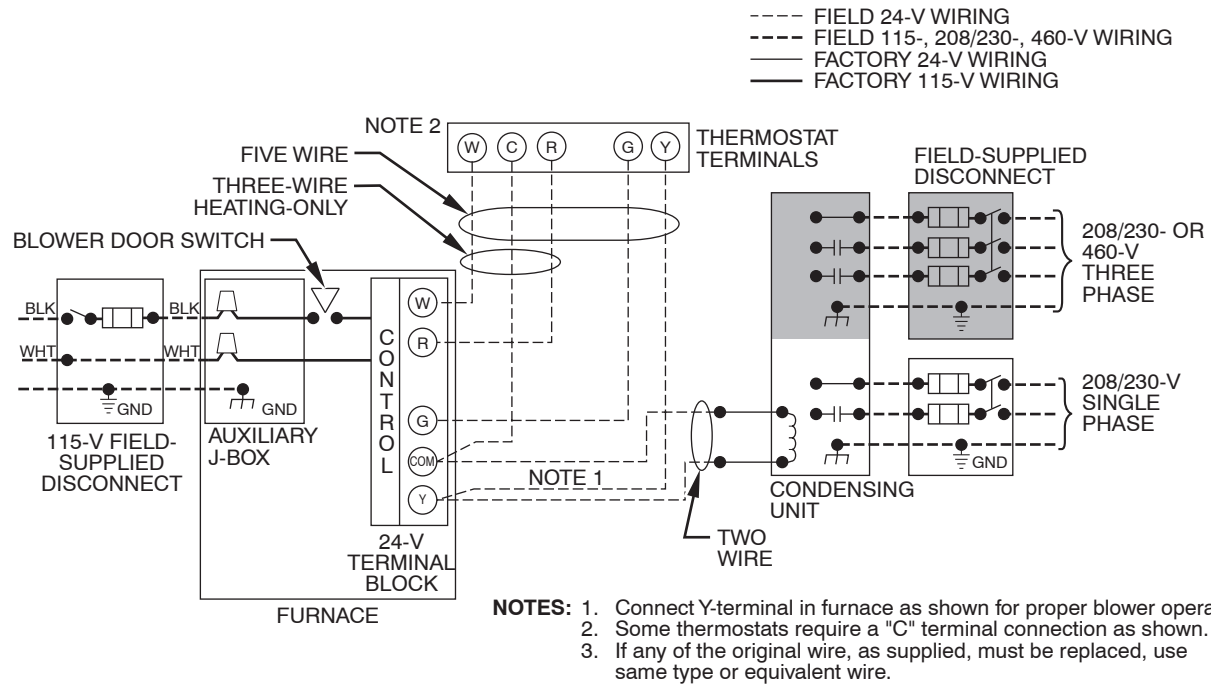
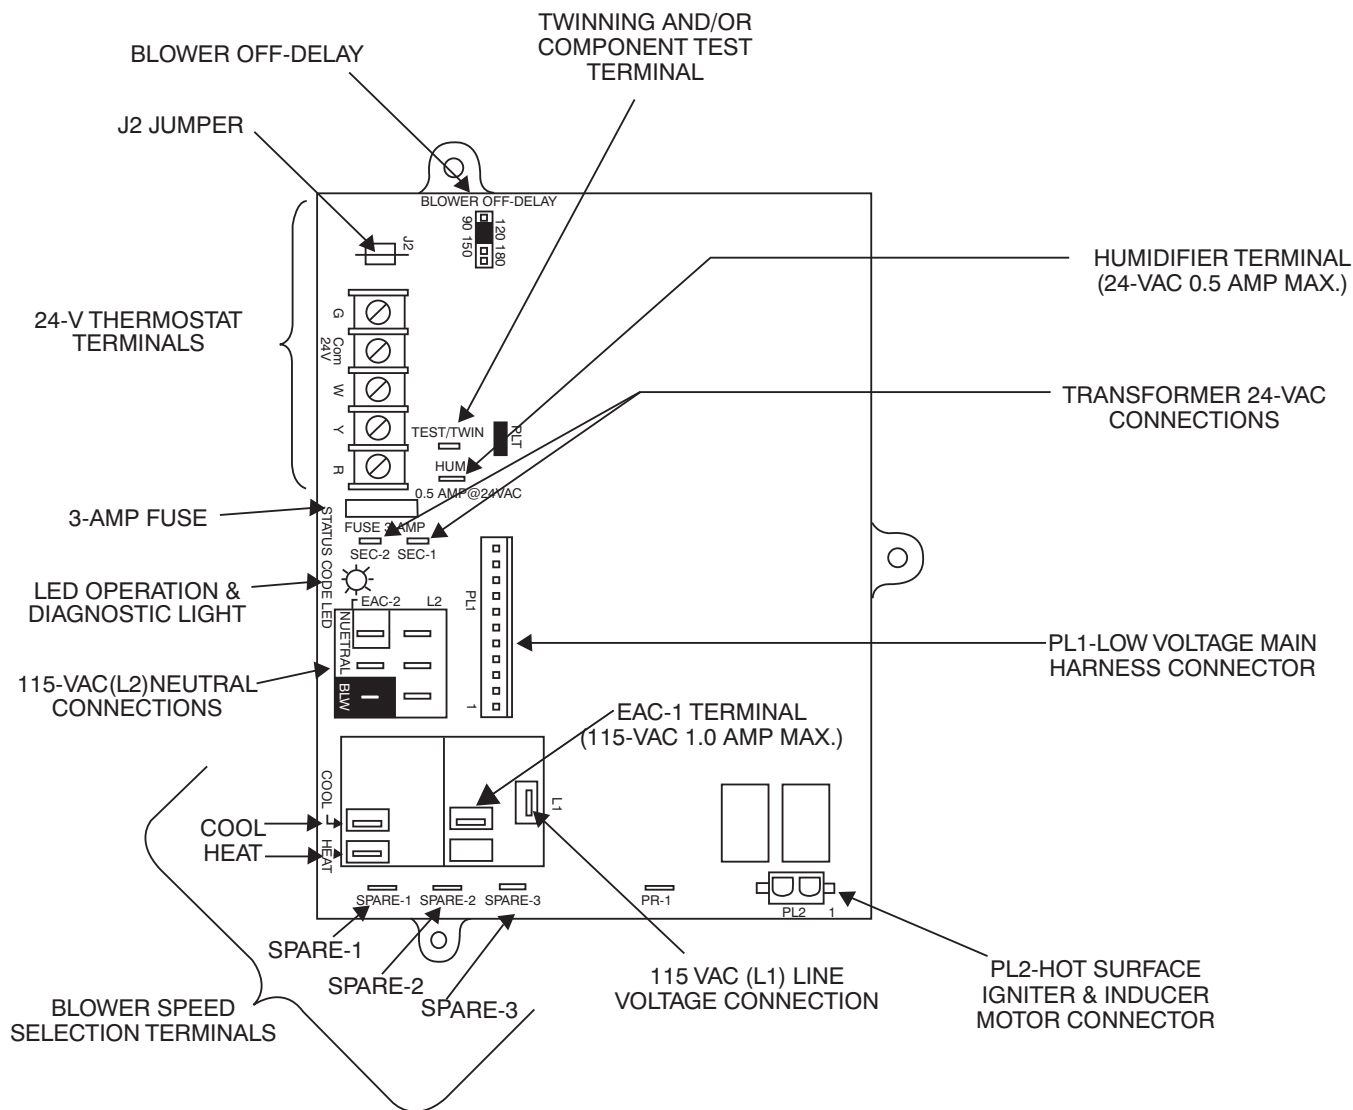

Fig. 35 - Typical Single-Stage Wiring Diagram
Fig. 36 - Example of Single Stage Furnace Control
7. Connect field power and neutral leads to furnace power leads as shown in Fig. 35.
6. Connect power cord power and neutral leads to furnace power leads as shown in Fig. 35.
5. Connect field power and neutral leads to furnace power leads as shown in Fig. 35.
Make field 24-v connections at the 24-v terminal strip. See Fig. 36. Connect terminal Y as shown in Fig. 35 for proper cooling
The 24-v circuit contains an automotive-type, 3-amp. fuse located on the control. Any direct shorts during installation, service, or maintenance could cause this fuse to blow. If fuse replacement is required, use ONLY a 3-amp. fuse of identical size. See Fig. 36.